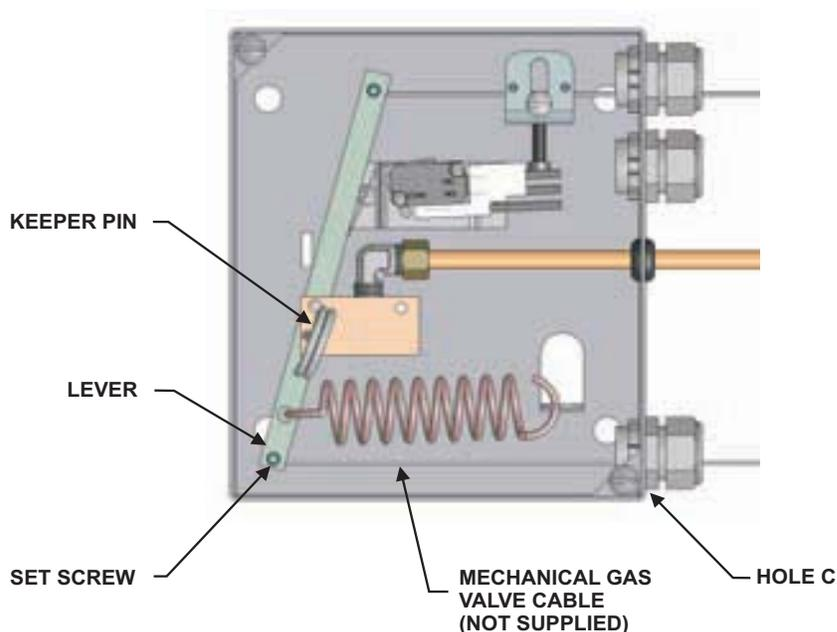

Figure 5-21. A+ Control Box in "SET" Position
- Install the Keeper Pin. The A+ Control Box is now held in the "SET" position (see Figure 5-21).